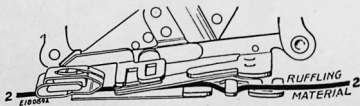

FIG. 72. CORRECT POSITION FOR THE MATERIAL
- (2) When the desired space is made, set the projection **D** in either of the slots "6" or "12".
- (3) Insert the material to be plaited between the two blue blades **Line 2, Fig. 72**.